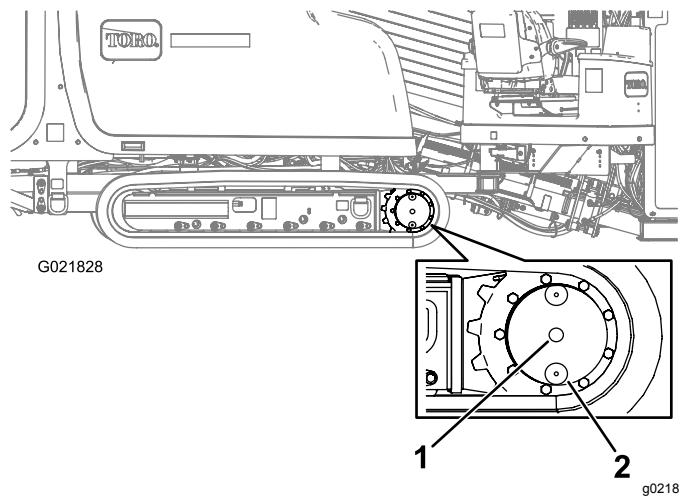

Figure 103
2. Clean the area around the oil-level plug with a cleaning solvent (Figure 103).
3. Remove the oil-level plug (Figure 103).
2. Clean the area around the oil-level plug (Figure 103).
3. Rotate the planetary drive until the oil-drain plug is directly below the oil-level plug (Figure 103).